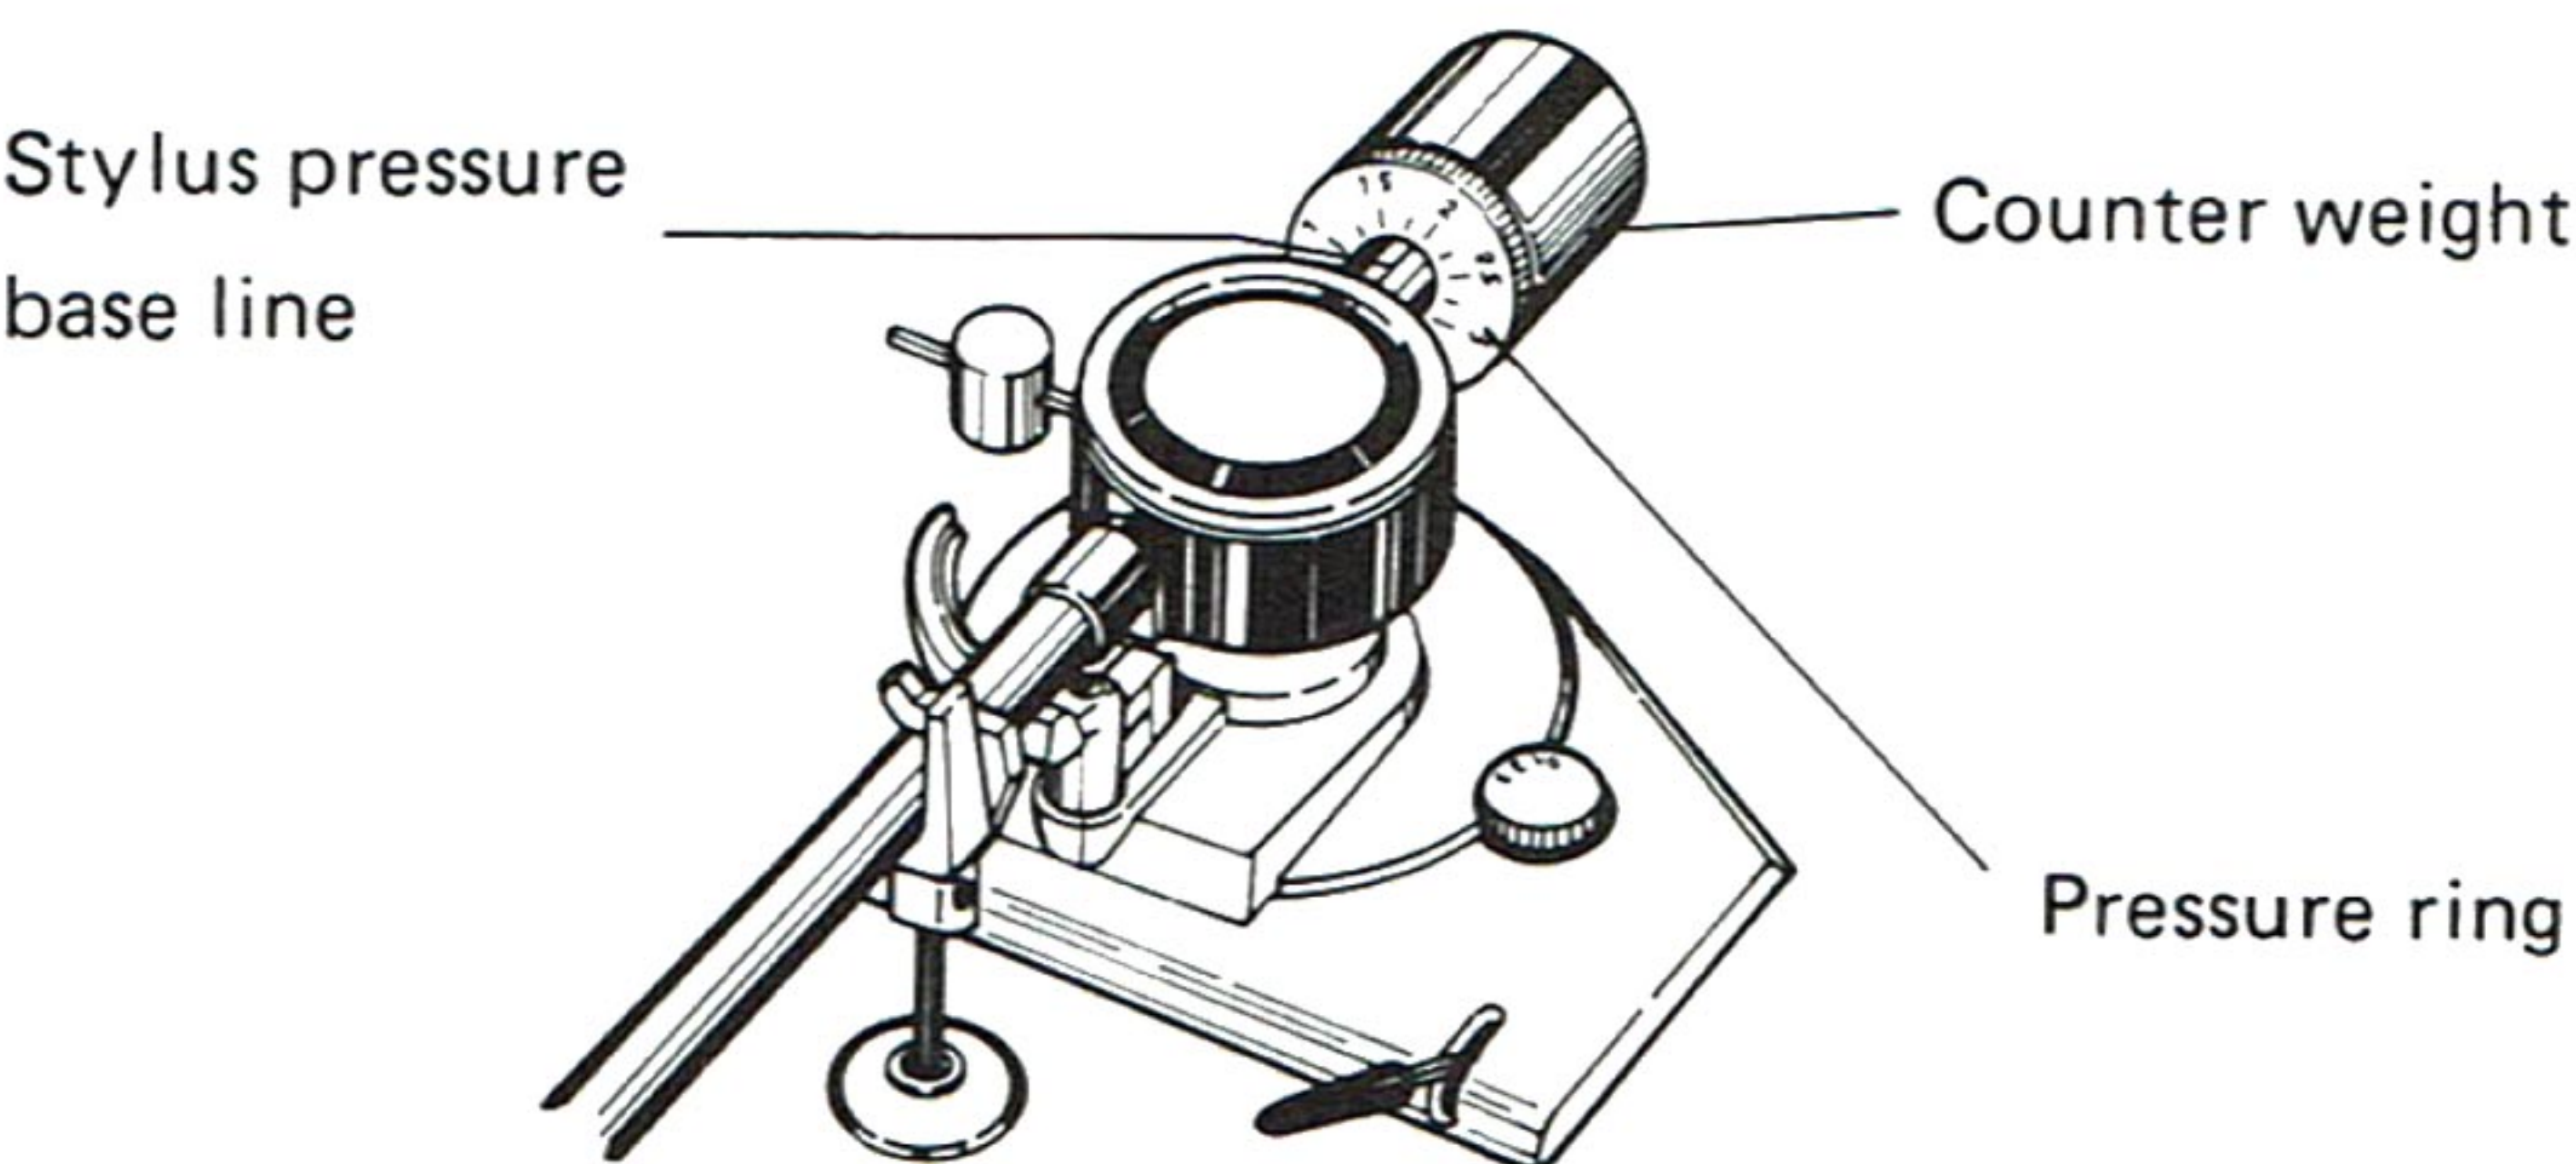

Fig. 6
- 2. Set the stylus pressure by turning the counter weight to the number recommended for your cartridge (Fig. 6).